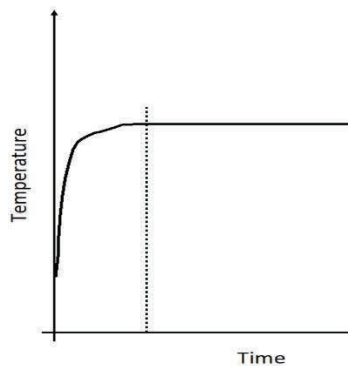

Figure 6.6
6.4.8 Thermal Time Constant: When current is applied to a trace, the trace starts to heat up. At first, it heats fairly quickly. But as the trace heats up, heat is conducted away from the trace, warming the material nearby, thereby slowing the rate at which the trace continues to warm up. The trace temperature typically has a time constant associated with it which depends on the heat transfer coefficient of the dielectric and the board geometry. But the shape of the heating curve is pretty typical. A representative one is shown in Figure 6.6 (Note 10). It typically takes from 5 to 15 minutes for normal trace temperatures to stabilize.